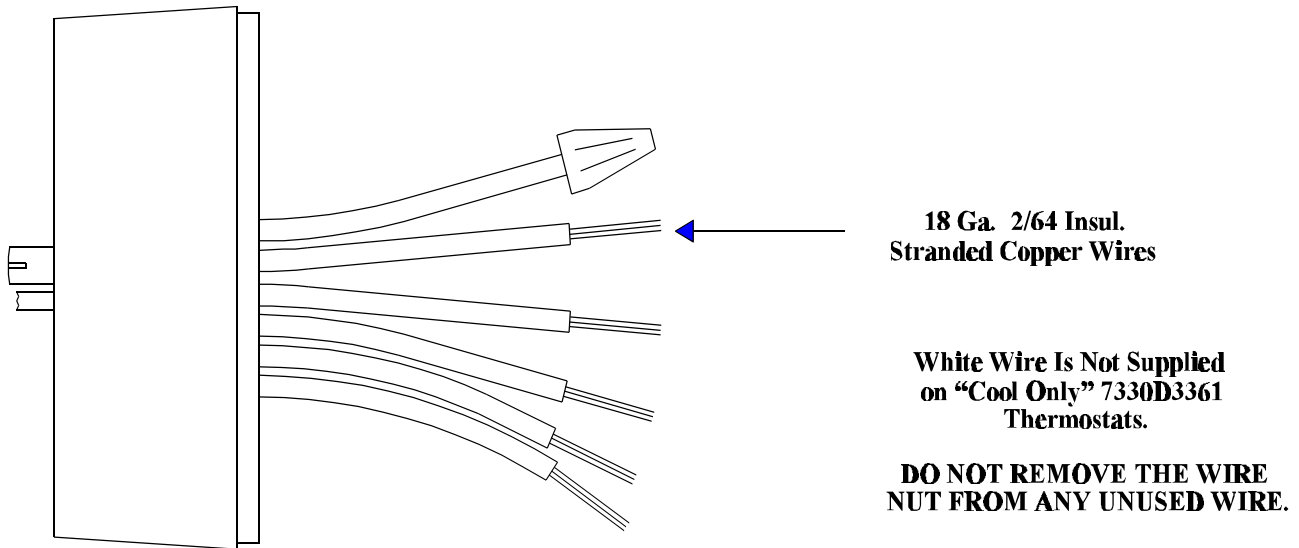

FIGURE 3
- Use the Wire Cross Reference Chart and connect the appropriate conductor to the wire which protrudes from the back of the thermostat (See Figure 3). If this is a first time installation, note the thermostat wire color for future reference in order to properly connect the thermostat wiring to the ceiling assembly.